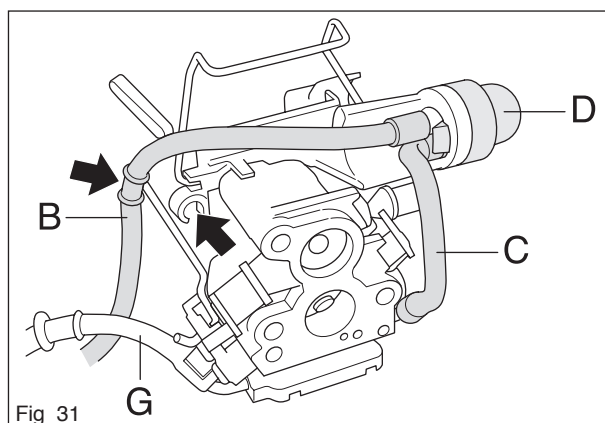

Fig 31
4. Remove the return hose (B) and suction hose (C). Loosen the fuel pump (D). Let the fuel hose (G) remain in place (see figure 31).